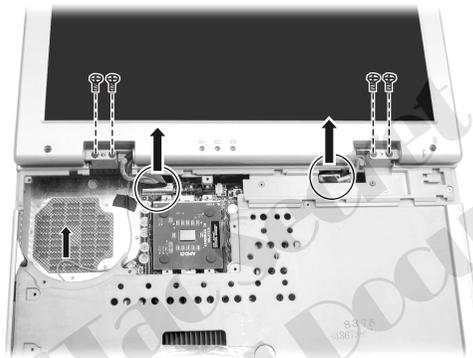

Figure 2-18 Remove the LCD ASSY
6. Disconnect the two LCD cables from the system board, and remove four screws of the hinges. (Figure 2-18)
7. Rip the insulating tape off and pull out the antenna. Now you can detach the LCD assembly from the base unit. (Figure 2-18)